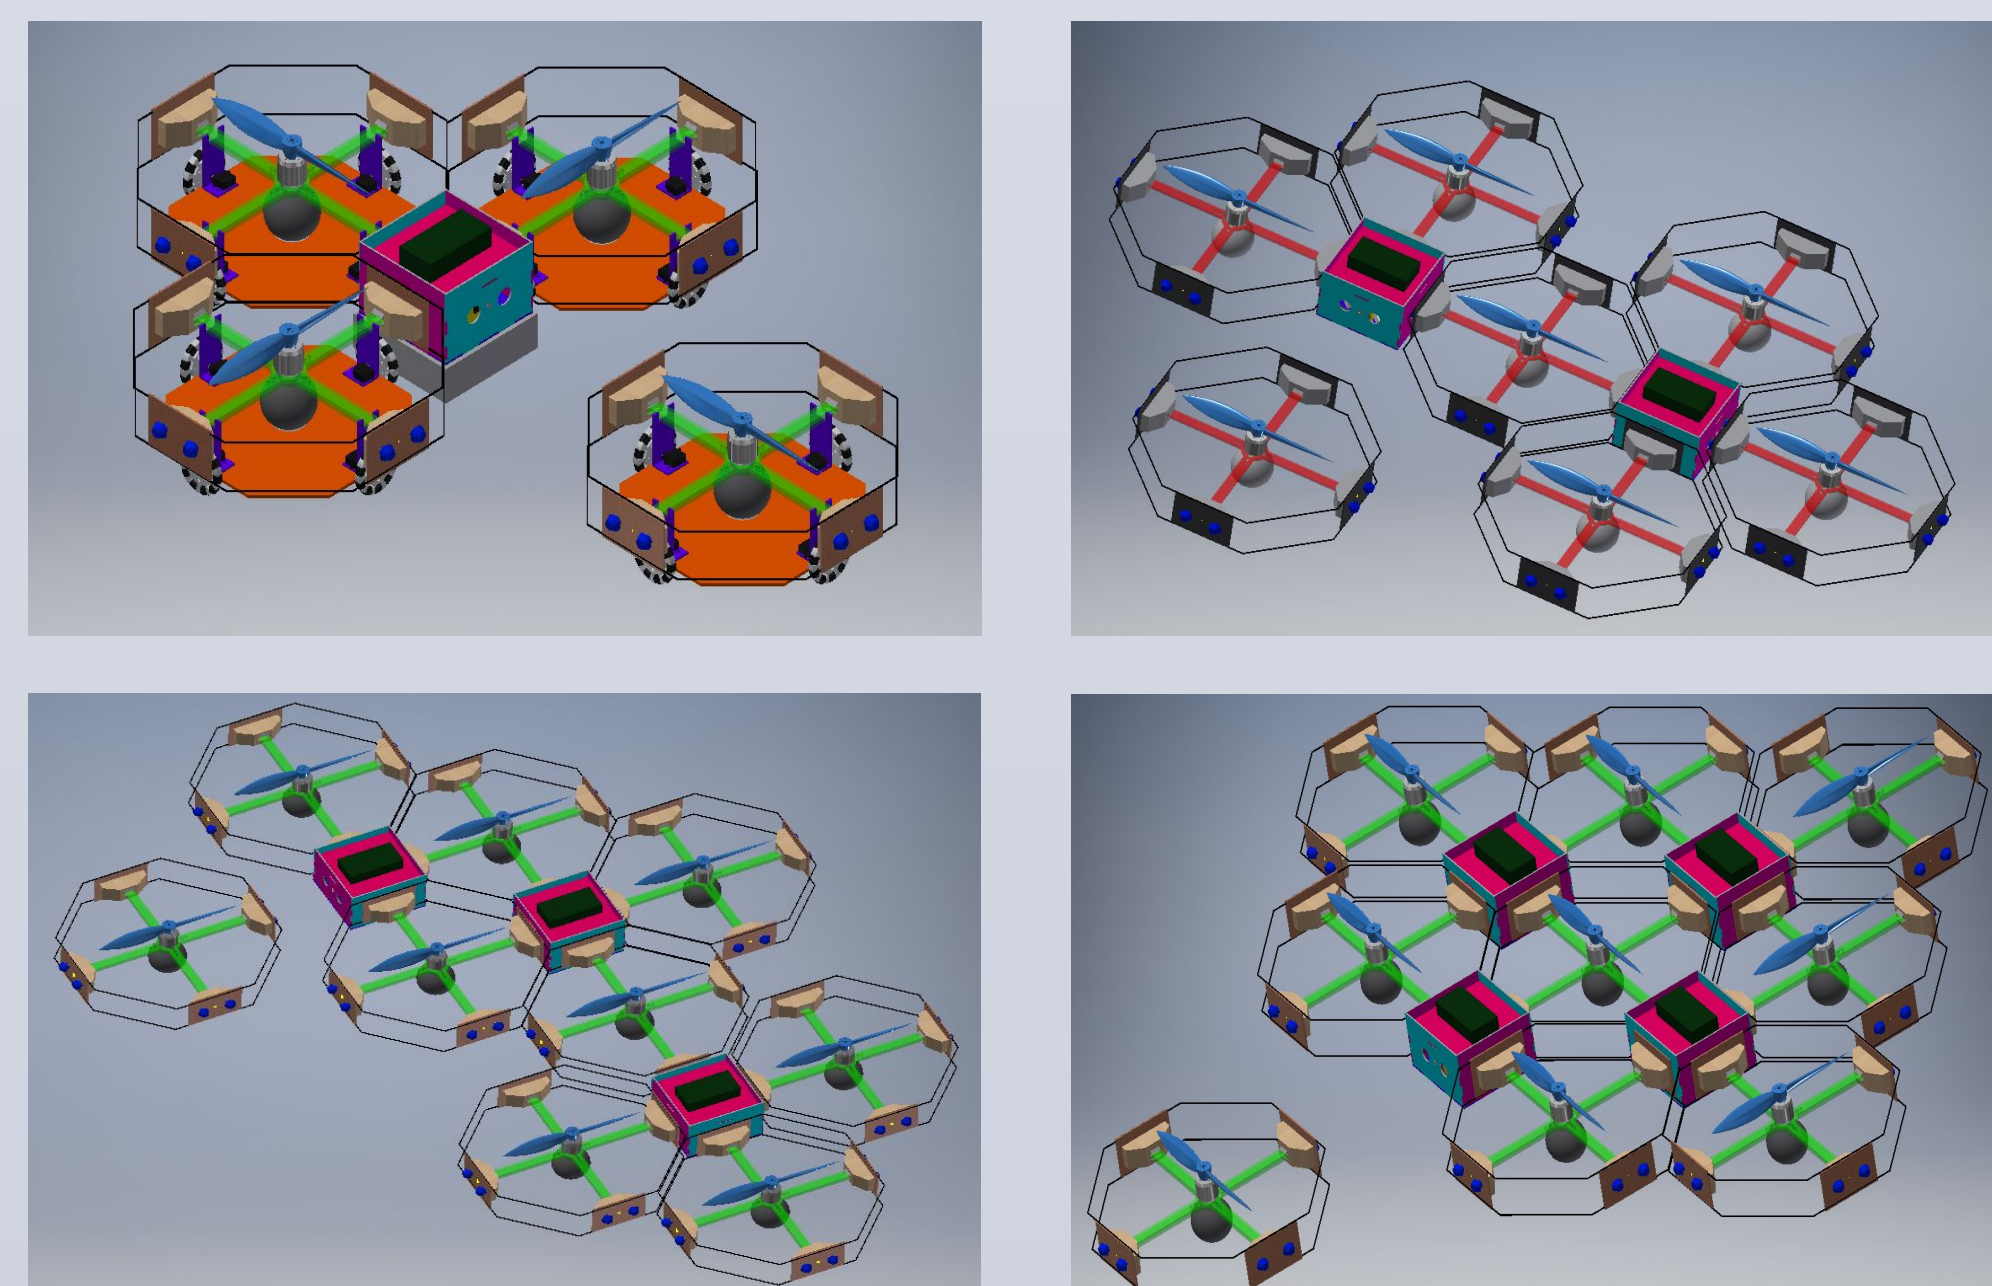
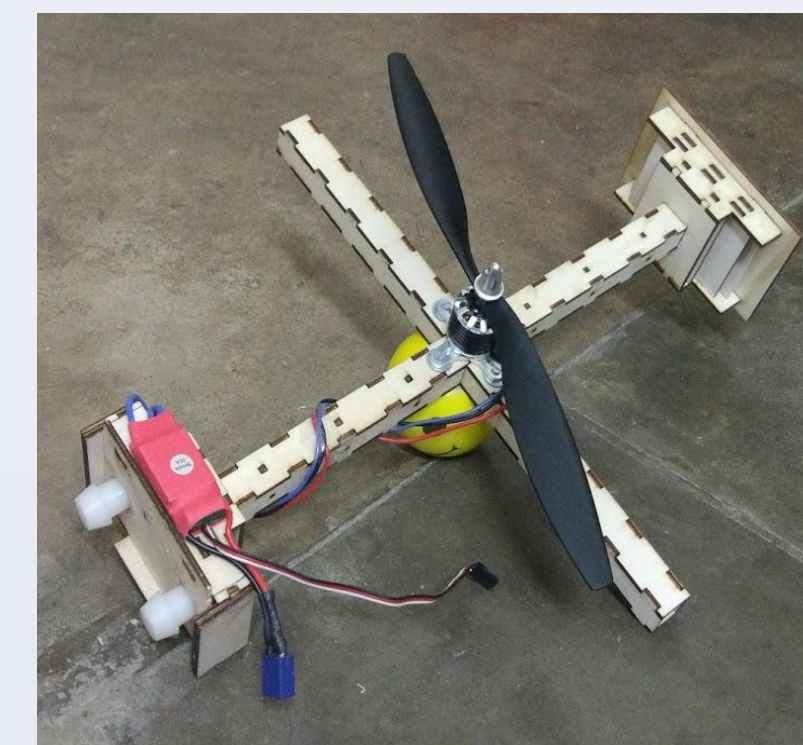

Figure 1
Figure 2
Modular Aerial Vehicle (ModAV) is one solution for different types of configurations of multi-rotor vehicles. It can be build in any of the desired configurations, be it a quadcopter, hexacopter or an octocopter (see figure 1 for different types of configurations). It is off the shelf system using the commercially available Pixhawk flight controller, rotors, battery, servos and Arduino Uno.
- ❑ Fig. 1 and Fig.2 shows rotor unit and central unit respectively.